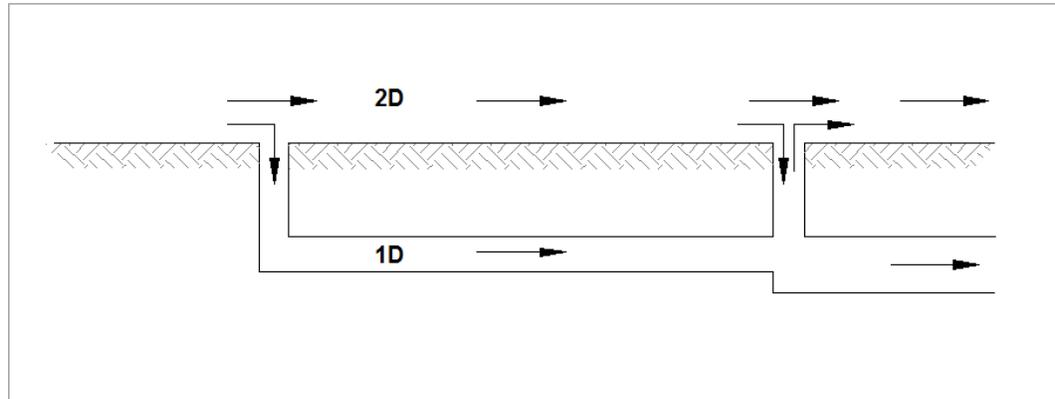

Figure 3 Modelling a pipe system in 1D underneath a 2D domain³
- Insert 1D networks “underneath” a 2D domain (Figure 2-1b, and Figure 3).